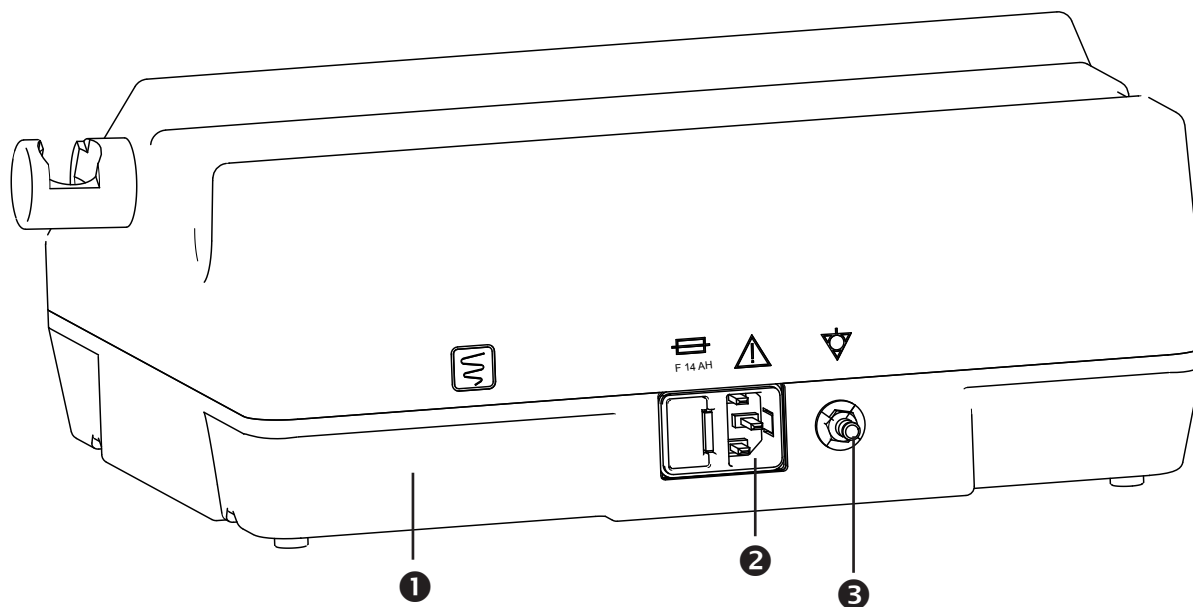

Fig. 2. Rear view
- Connect the power cable to the mains supply (⊕, fig. 2).
- Connection for potential equalization (⊕, fig. 2). Connecting cable available from ATMOS (see section 8.0).